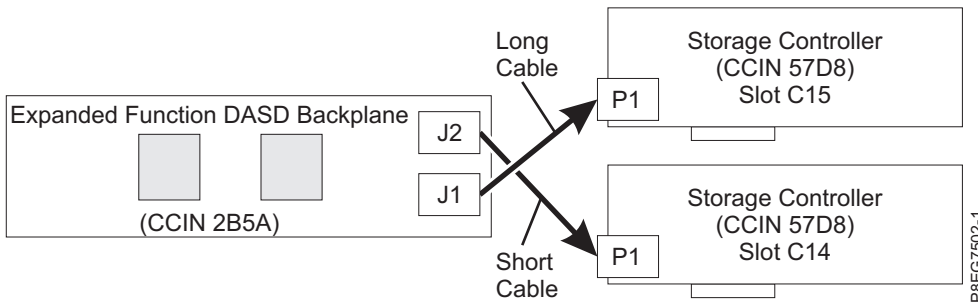

Figure 8. Reconnecting the SAS cable in an expanded function configuration
- If you have two PCIe3 x8 cache SAS RAID internal adapters (CCIN 57D8) (expanded function), the short SAS cable connects the upper disk drive backplane connector (J2) to the P1 connector on the SAS RAID internal adapter in slot P1-C14. The long SAS cable connects the lower disk drive backplane connector (J1) to the P1 connector on the SAS RAID internal adapter in slot P1-C15. See Figure 8.